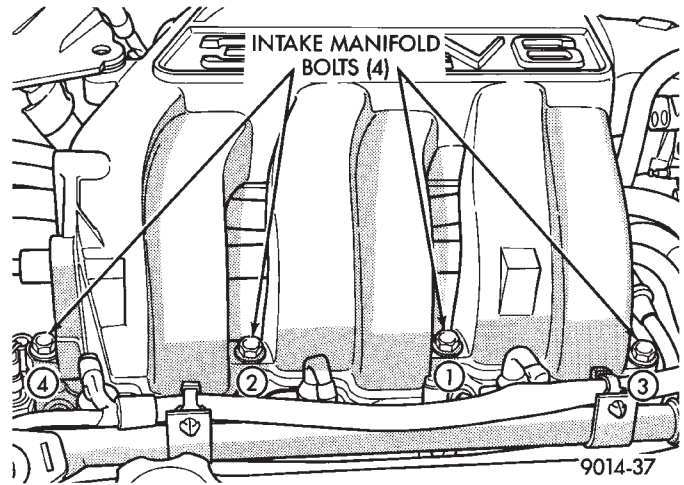

Fig. 11 Intake Manifold Bolts
(14) Remove intake mounting manifold bolts and rotate manifold back over rear valve cover (Fig. 11).
(10) Place intake manifold gasket on lower manifold. Put upper manifold into place and install bolts finger tight.
(11) Install the alternator bracket to intake manifold bolt and the cylinder head to intake manifold strut bolts. (Do not tighten.)
(12) Following the tightening sequence in Figure 11, tighten intake manifold bolts to 28 N•m (250 in. lbs.) torque.